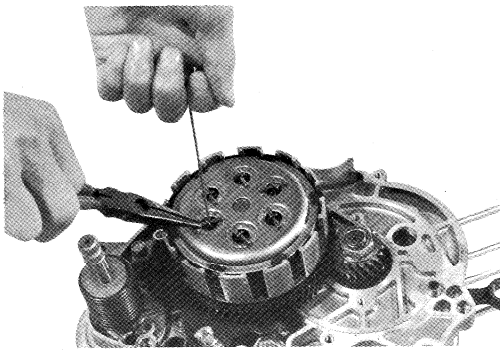
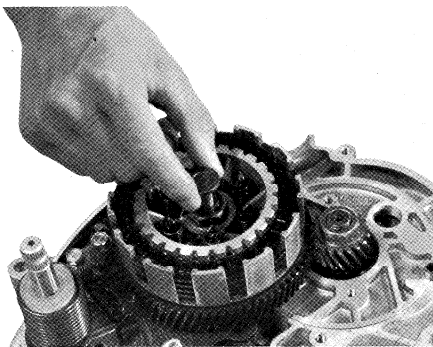

Fig. 5-4-11
Fig. 5-4-12
12. Pulling the clutch springs with a clutch spring hook (special tool 09920-20310), take out the clutch spring pins with a nose pliers. (Fig. 5-4-11) Remove the clutch pressure plate, the release rod and the cork and steel plates from the clutch housing by hand. (Fig. 5-4-12)